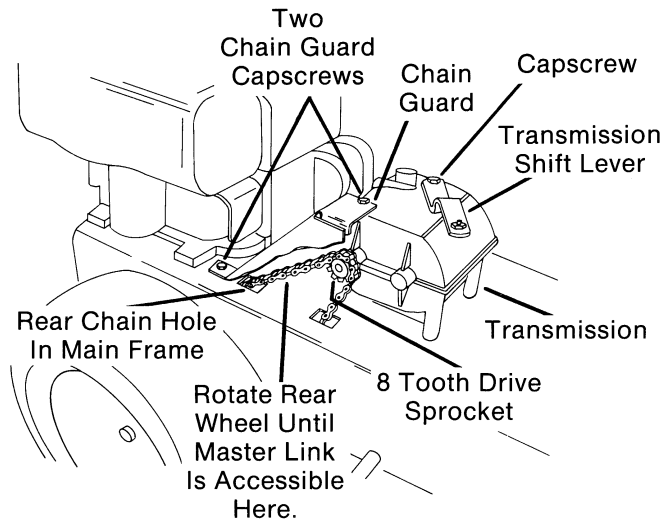

FIG. 24
- B. Remove two capscrews holding chain guard to main frame. (Fig. 24) Remove chain guard.
- a. Rotate rear wheel until master link is accessible above main frame. (Fig. 24)
- b. Insert one end of new chain through front chain hole in main frame and the other end through the rear chain hole. (Fig. 24) Drop chain over 8 tooth transmission drive sprocket.
6. Remove capscrew and washers securing transmission shift lever to top of transmission. Move lever out of the way. (Fig. 24)
7. Remove two capscrews holding chain guard to main frame. Remove chain guard. (Fig. 24)